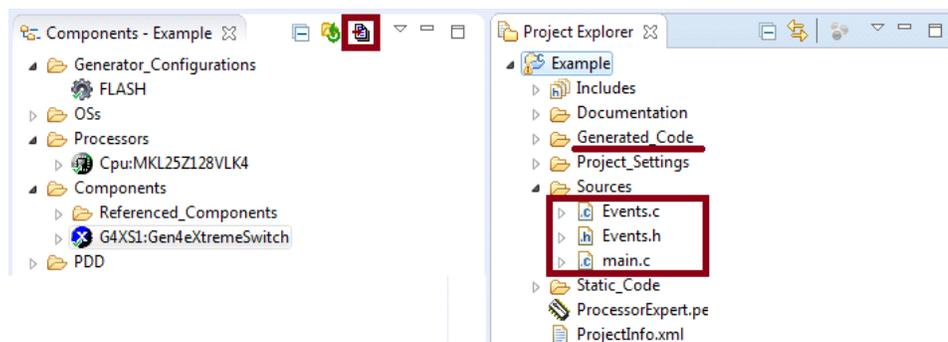

Figure 14. Generating the driver code and code location
1. Click on the **Generate Processor Expert Code** icon in the upper right corner of the **Components** panel. (See Figure 14)
2. The driver code for the device is generated into the **Generated\_Code** folder in the **Project Explorer** panel. The component only generates the driver code. It does not generate application code (see Figure 14)